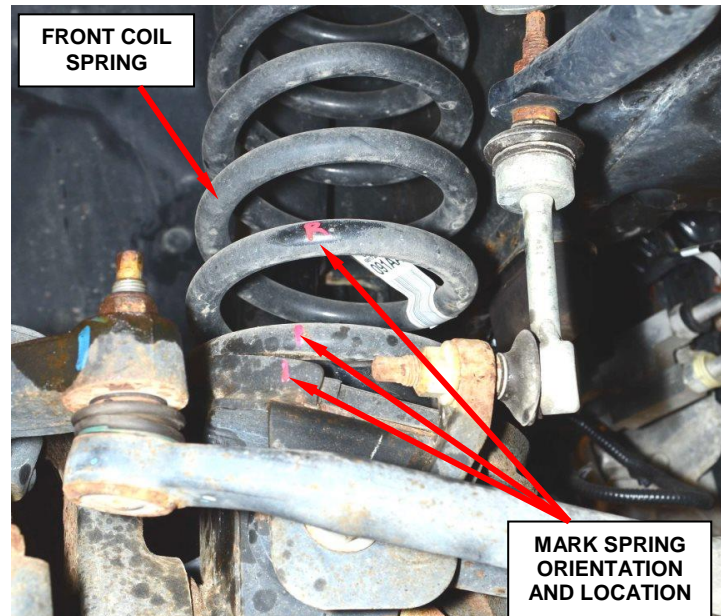

Figure 14 – Mark Front Coil Spring Orientation and Location
18. Using a paint pen or equivalent, mark the right and left front coil spring orientation and location (Figure 14).